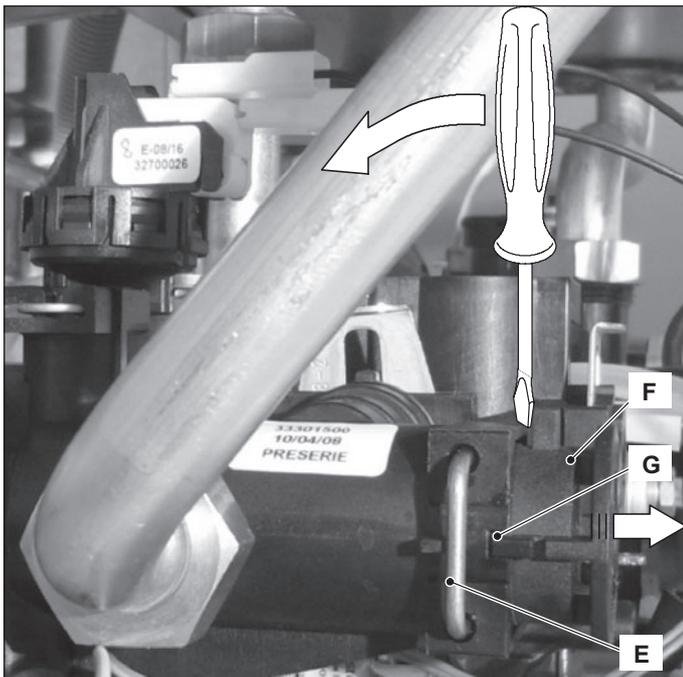

Figure 8.5
- 4 Remove the fixing spring E (Figure 8.5)
- 5 Remove the tree way diverter valve F by levering with a screwdriver in as shown in Figure 8.5.
**Warning:** When reassembling the tree way diverter valve be sure that the tree way diverter is correctly oriented by matching the reference G with the notch of the water group Figure 8.5.